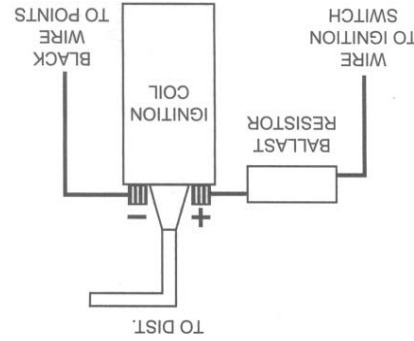

FIGURE 2
17. Attach the black Ignitor II wire to the negative coil terminal. Attach the red Ignitor II wire to the positive coil terminal. (See Figure 2)